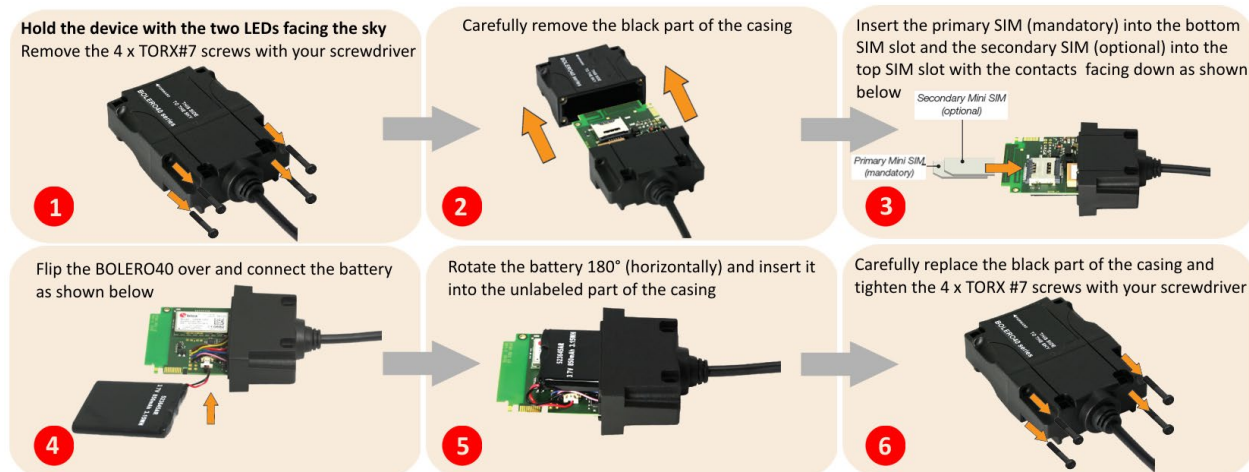

Figure 13. Inserting the SIM card
1. Remove the power supply and any other connections from the device. Hold the device with the two LEDs facing the sky (see Figure 13). If the device case is already screwed together then unscrew the 4 x TORX#8 screws. Screws may also be delivered in a separate plastic bag.
3. Locate the SIM card holder on the left of the PCB. Insert the primary SIM (mandatory) into the bottom SIM slot and the secondary SIM (optional) into the top SIM slot with contacts facing down and the cat edge as shown in Figure 13.